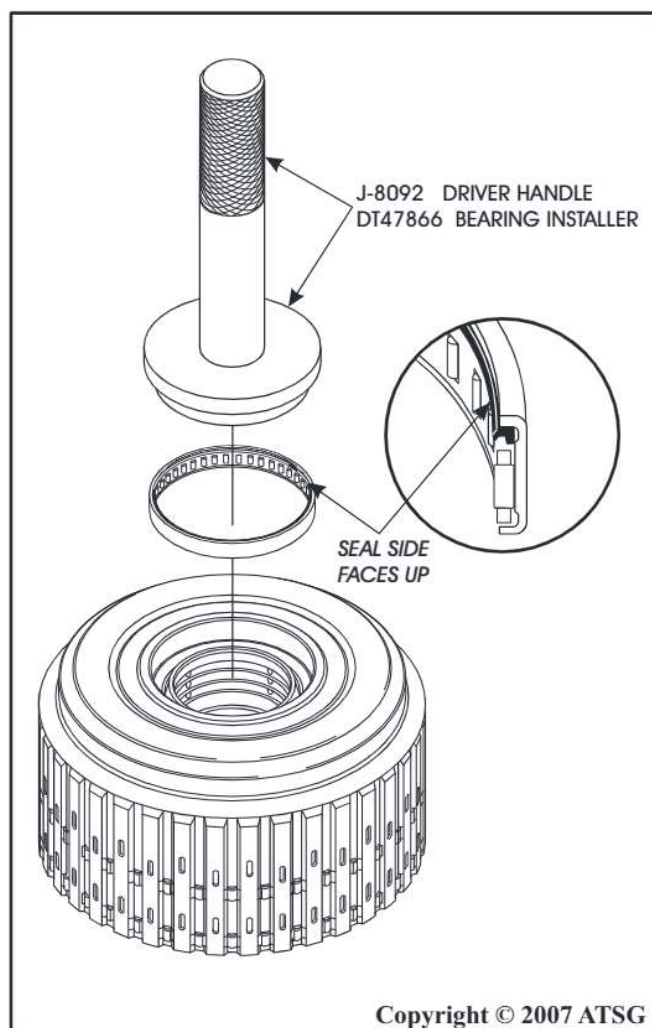

Figure 90
Note: General Motors recommends this bearing be replaced on all rebuilds because of the incorporated lip seal (See Figure 90).
6. Install a new caged roller bearing, as shown in Figure 90, with seal side facing up.